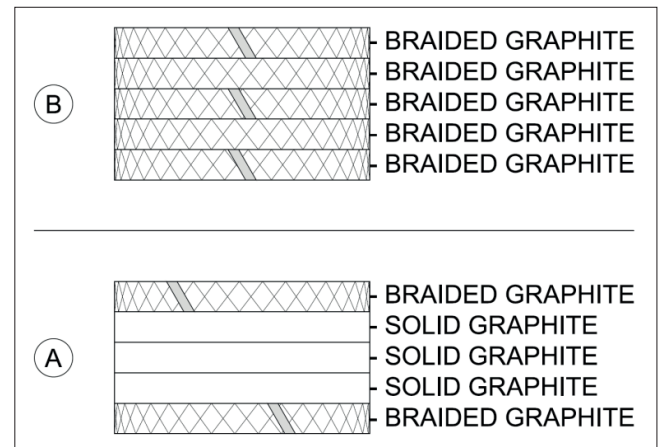
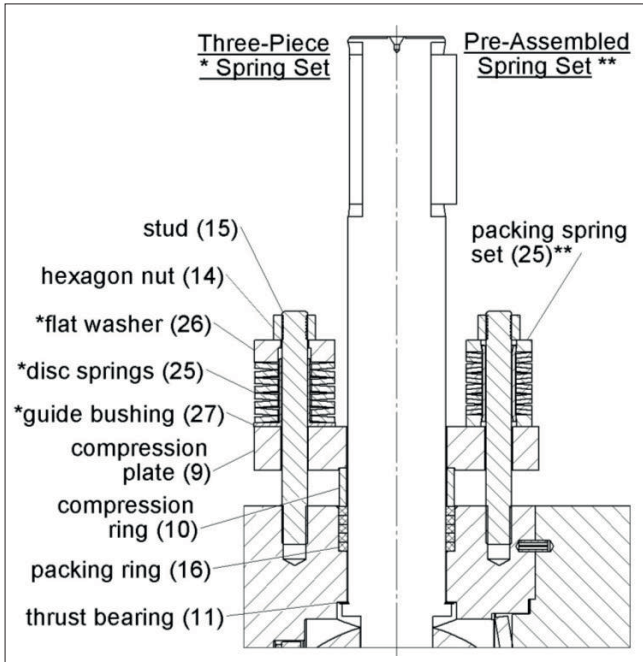

Figure 11. Packing Constructions
Figure 12. Packing Detail
- Remove the key (30).
- Remove the hexagon nuts (14), disc spring set (25, 26, 27), compression plate (9), and compression ring (10). (Some valves may have pre-assembled spring set (25), see Figure 12).
- Remove the packing rings (16) from around the shaft using a packing removal tool. Make sure that there is no damage to the shaft or the counterbore. Please note that the thrust bearings (11) may come off as you remove the packing. They should be placed back in position before installing the new packing.
- There are two general packing constructions available, identify which is used (A or B, Figure 11).
- Place the new packing rings (16) over the shaft (3). Do not damage packing rings with the shaft keyway. If installing an all woven packing, make sure that the seams are staggered at least 90° apart. This should create two 180° zones between adjacent seals with only one seam each. Figure 11.
- The compression ring (10) and compression plate (9) may now be used for pushing the rings into the counterbore. See Fig. 12.
- Place the disc spring set (25, 26, 27) on the compression studs. Tighten the nuts (14) to the torque described by Equation 1. (Some valves may have pre-assembled spring set (25), see Figure 12).
- Remove the shaft (3) and thrust bearings (11) by sliding the shaft down through the stuffing box and out of the body through the bottom plug hole.
- Carefully remove the packing rings (16) from the counterbore using a packing removal tool.